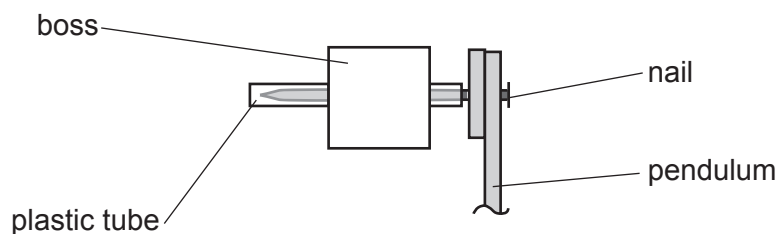
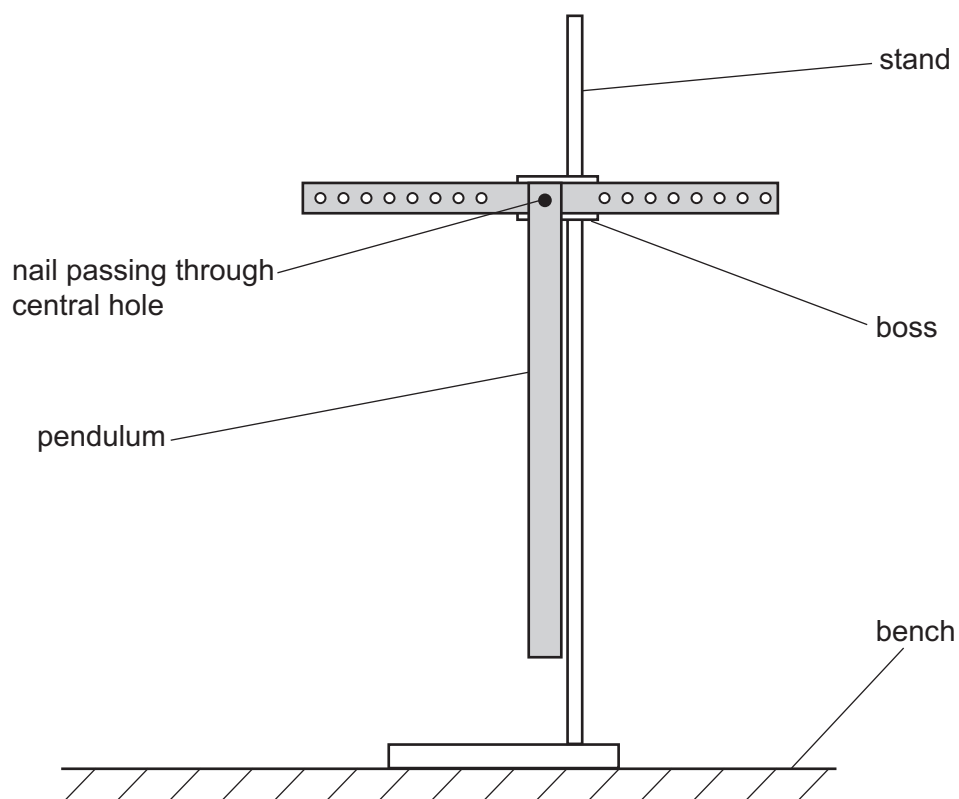

Fig. 1.1
Fig. 1.2
- Assemble the apparatus as shown in Fig. 1.1 and Fig. 1.2.
- Secure the tube and nail in the boss, as shown in Fig. 1.1.